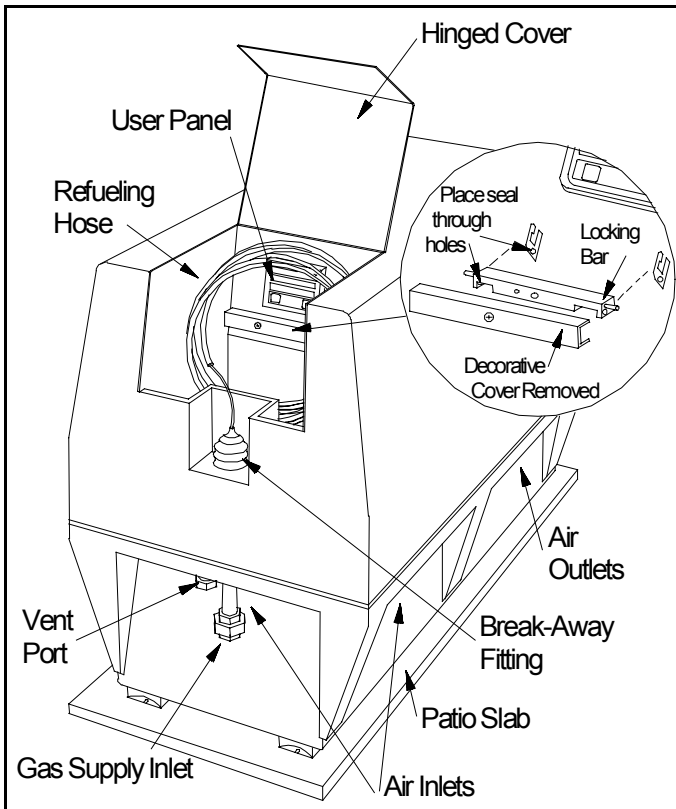

Figure 1 - The FuelMaker, Model C3
**Safety precautions require that the FuelMaker's internals be inaccessible to the user and other unauthorized persons, and accordingly service personnel must ensure that the FuelMaker is sealed prior to leaving the site. This is done by placing a seal through the holes in the locking bar and tabs immediately below the User Panel - see Figure 1.**